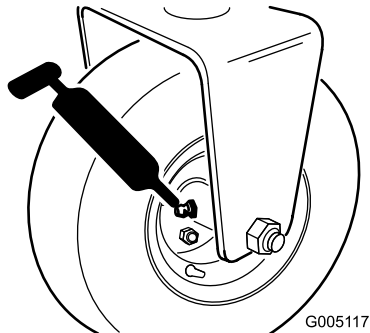

Figure 38
- Rear wheel roller clutches and external ball bearing (1) (Figure 38)